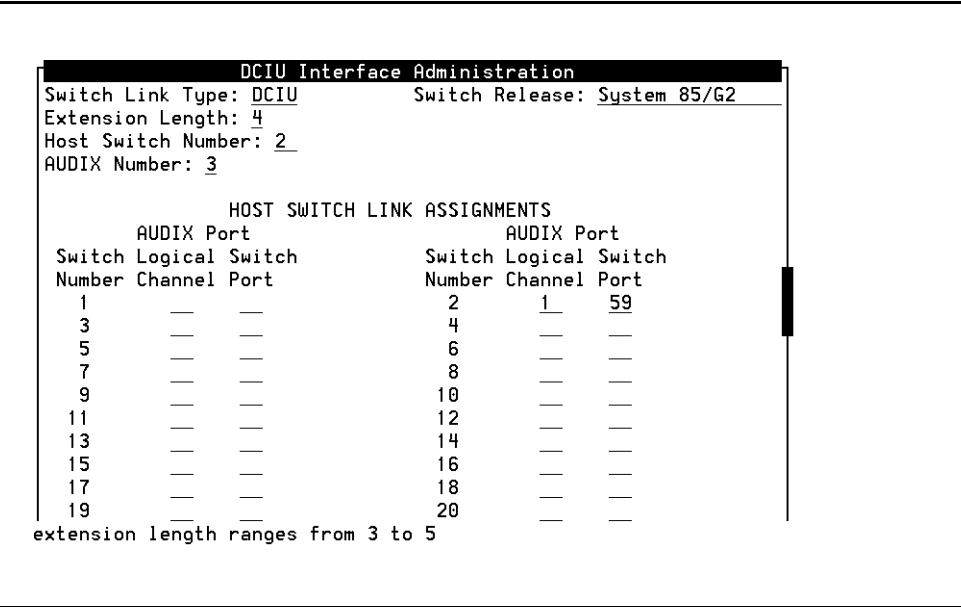

Figure 6-27. System 85 DCIU Interface Administration Window
The system displays the DCIU Interface Administration window (Figure 6-27).
2. Confirm the information entered at the top of the DCIU interface administration window (Figure 6-27).
- 2. Confirm the information entered at the top of the DCIU Interface Administration window (Figure 6-27).